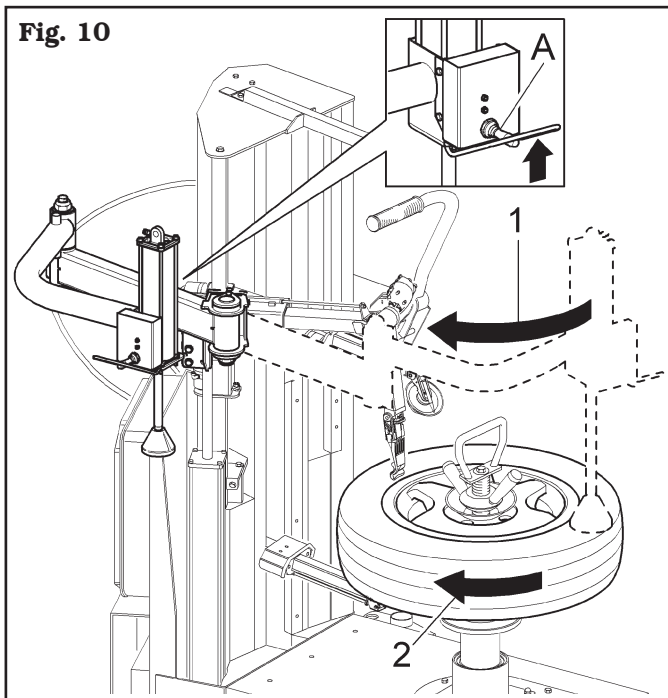

Fig. 10
f - Lift presser cone operating control unit's lever upwards (**Fig. 10 ref. A**) and close Plus Device in rest position again (**Fig. 10 ref. 1**). Then end second bead's introduction by turning the mandrel clockwise (**Fig. 10 ref. 2**).